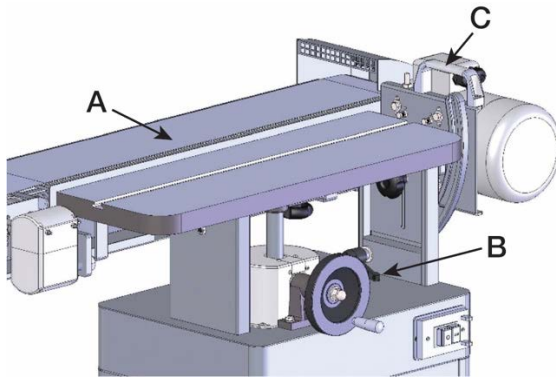
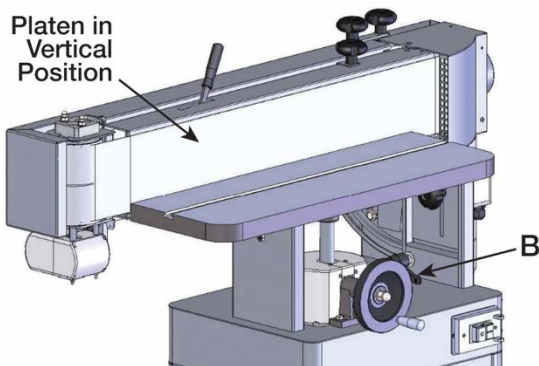

Figure 7-7
Figure 7-8
Refer to Figures 7-7 & 7-8:
1. The sanding platen (A, Figure 7-7) is presently in the horizontal (flat) position. Loosen locking handle (B, Figure 7-7).
2. Using the tilting handle (C, Figure 7-7), rotate sanding platen to the vertical position (see Figure 7-8).
3. Tighten the locking handle (B, Figure 7-8) to lock the platen assembly in place.